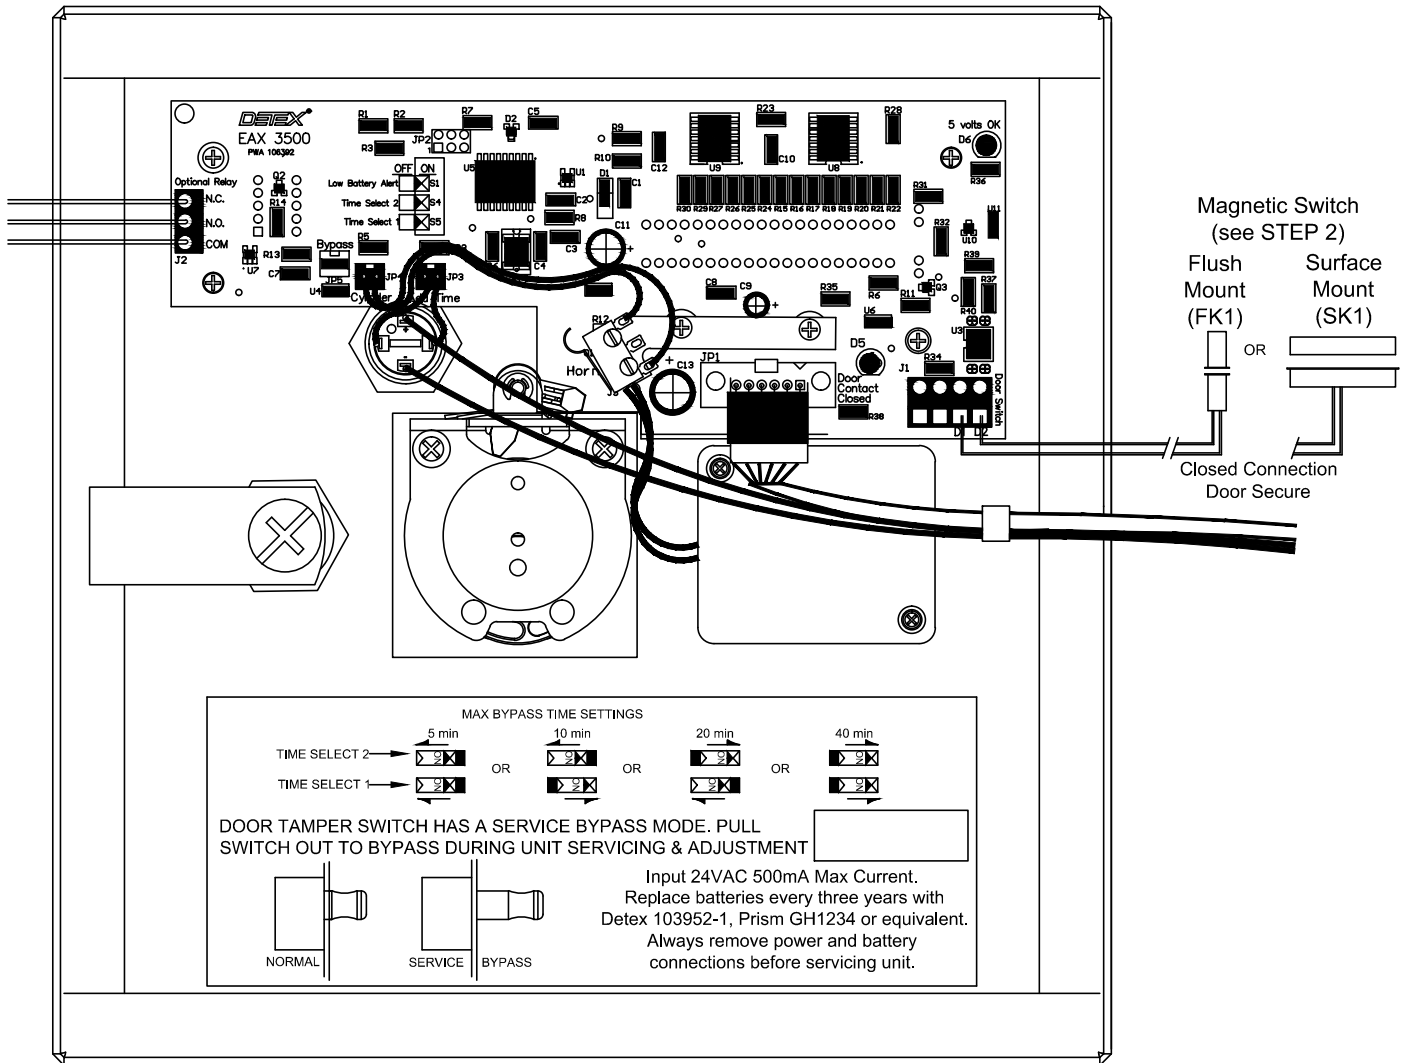

Fig. 2
STEP 2. MAGNETIC SWITCH INSTALLATION: Fig. 2
Connect magnetic switch wires to LOGIC DISPLAY pc board located on enclosure door. See Fig 2.